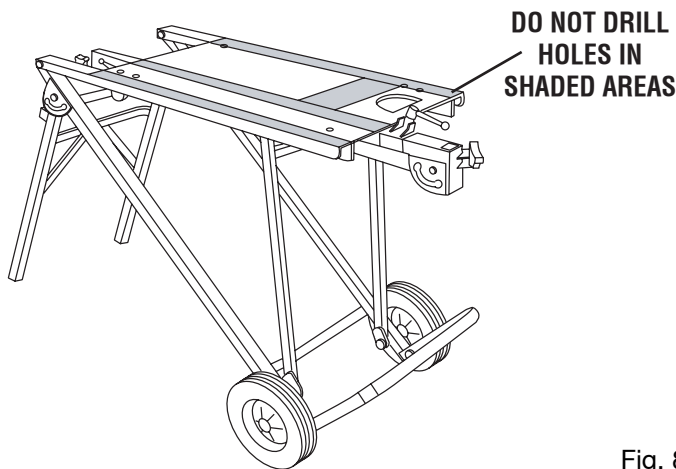

Fig. 8
See Figure 8.
- The mounting hardware will not interfere with the sliding table frame members underneath table. Shaded areas on table in figure 8 show locations that mounting hardware may interfere with folding/locking mechanisms. Be sure to position miter saw outside of these areas.